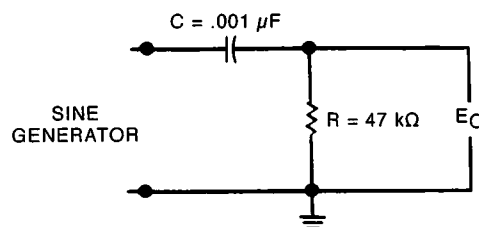

Figure 3-53
12. Disconnect the low-pass filter circuit. In its place, construct the circuit shown in Figure 3-53. As before, construct the resistor and capacitor on the breadboarding socket and connect it to the outputs of the generator. Study the circuit in Figure 3-53, and answer the statement below:
The RC network shown in Figure 3-53 is a _____ pass filter.
13. Use the component values in Figure 3-53 to compute the cut-off frequency of the circuit. Record your value below:
With the values in Figure 3-53, your calculated cut-off frequency is approximately 3387.2 Hz. The calculation is shown below.